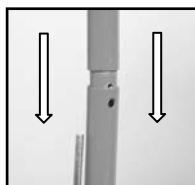
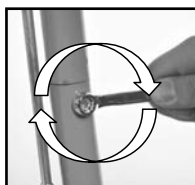

Fig.1
Fig.2
1. Remove the bolt on upper handle tube, then insert the upper handle tube into the lower handle tube, screw on the bolt and tighten it. (Fig. 1, Fig. 2)